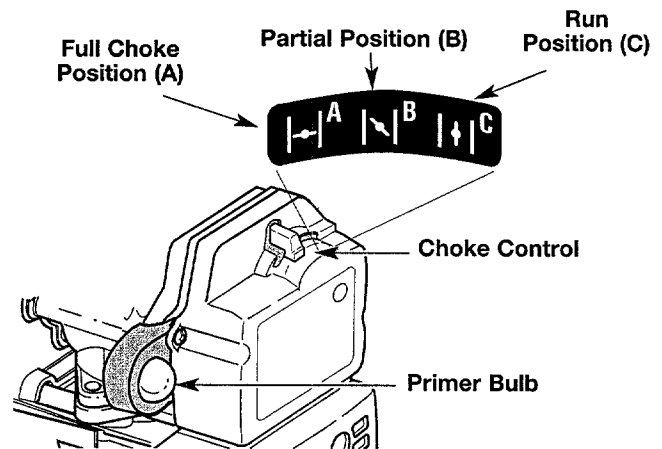

Figure 18
3. Fully press and release primer bulb slowly 5 to 7 times. Fuel should be visible in the bulb. If fuel is not visible, press three (3) more times, or until it is. See Figure 18.
4. Place the choke lever in the FULL choke position (A |—| ). See Figure 18.
5. With the unit on the ground, squeeze the throttle control and pull starter rope briskly. See Figure 18. Continue pulling until the engine sounds as though it wants to run (normally 2 to 5 pulls).
6. Place the choke lever in the PARTIAL choke position (B |↘| ). See Figure 18.
**NOTE:** If the engine floods while trying to start, place the choke lever in the RUN position (C |↑| ). Squeeze the throttle control. Pull the starter rope briskly. The engine should start within three (3) to eight (8) pulls.
9. Squeeze the throttle control to warm up engine for 5 to 10 seconds. Place the choke lever in the RUN position (C |↑| ). See Figure 18.